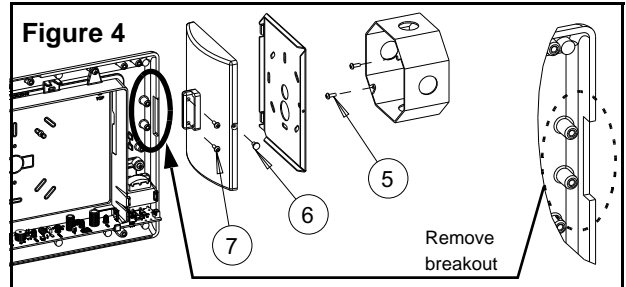

Figure 4
- a. Separate the canopy mounting plate(3) from the canopy assembly and retain the securement screw(6) (see figure 4).
- e. Secure the canopy to the housing by guiding the flange on the canopy into the rectangular hole in the side (or top) of the housing. Use the canopy screws to fasten the canopy to the housing (see figure 4).
- h. Mount the pictogram/canopy assembly to the canopy mounting plate by guiding the two tabs on the canopy plate into the slots in canopy. Use the securement screw to fasten the canopy to the mounting plate (see figure 4).